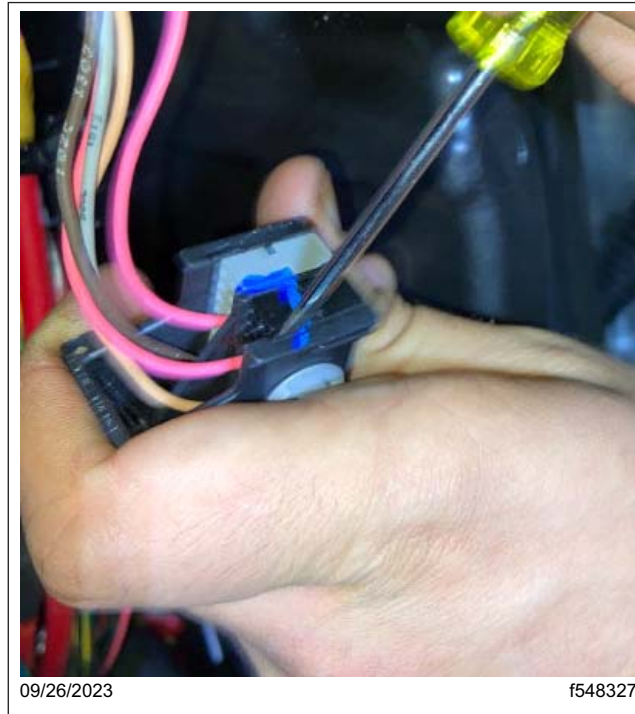
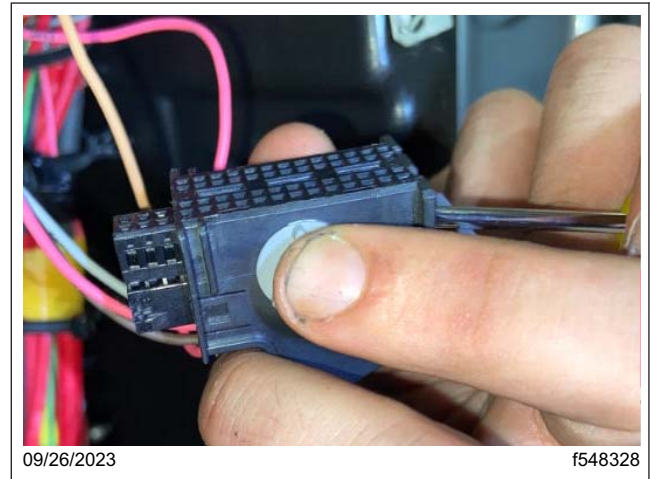

Fig. 59, Releasing the Black Terminal Bank
Fig. 60, Pushing Out the Black Terminal Bank
13.14 Remove the black terminal bank (pins 27–52) from the XMC2 X2 connector by following the same procedures outlined in substep 13.9. See Fig. 59 and Fig. 60.